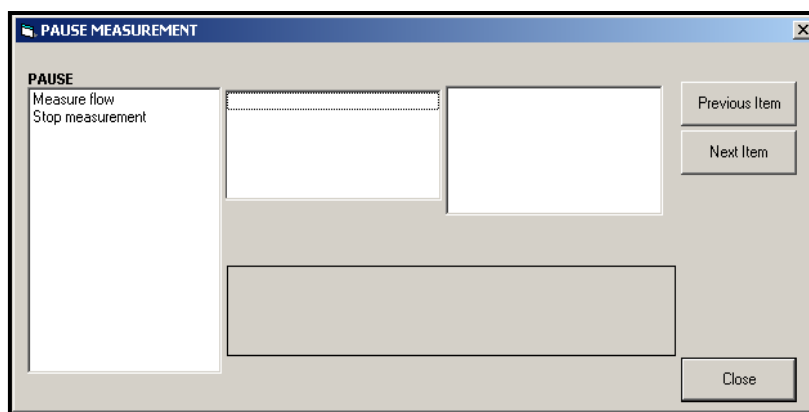

Figure 17: The *Pause Measurement* Window
2. Expand the *Edit Functions* option, and double-click on the *Pause Measurement* entry. A window opens similar to *Figure 17* below.